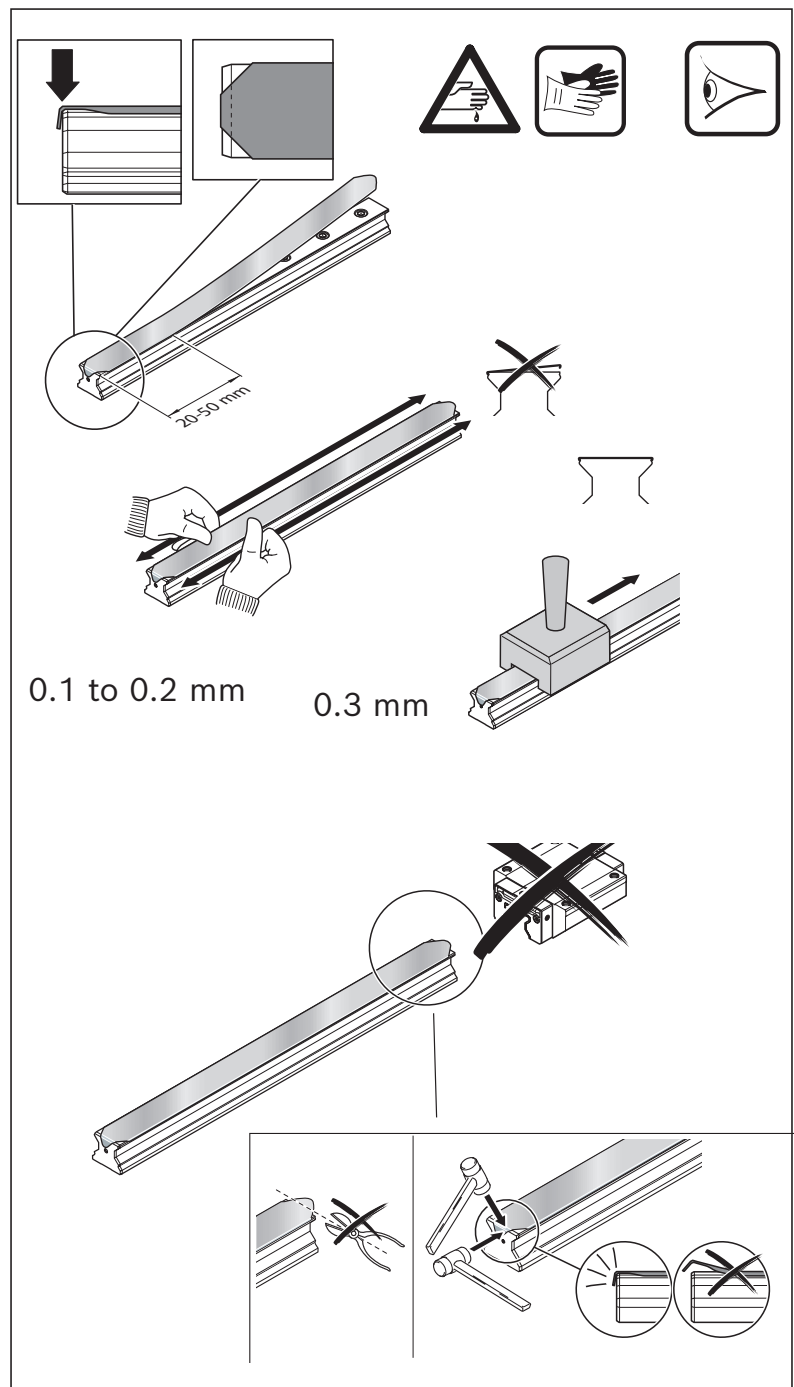

Fig. 37: Mounting custom-length Rail Seals
- ▶ Mount the Rail Seal, starting at the end with the angled-off tongue. ➡ Fig. 37